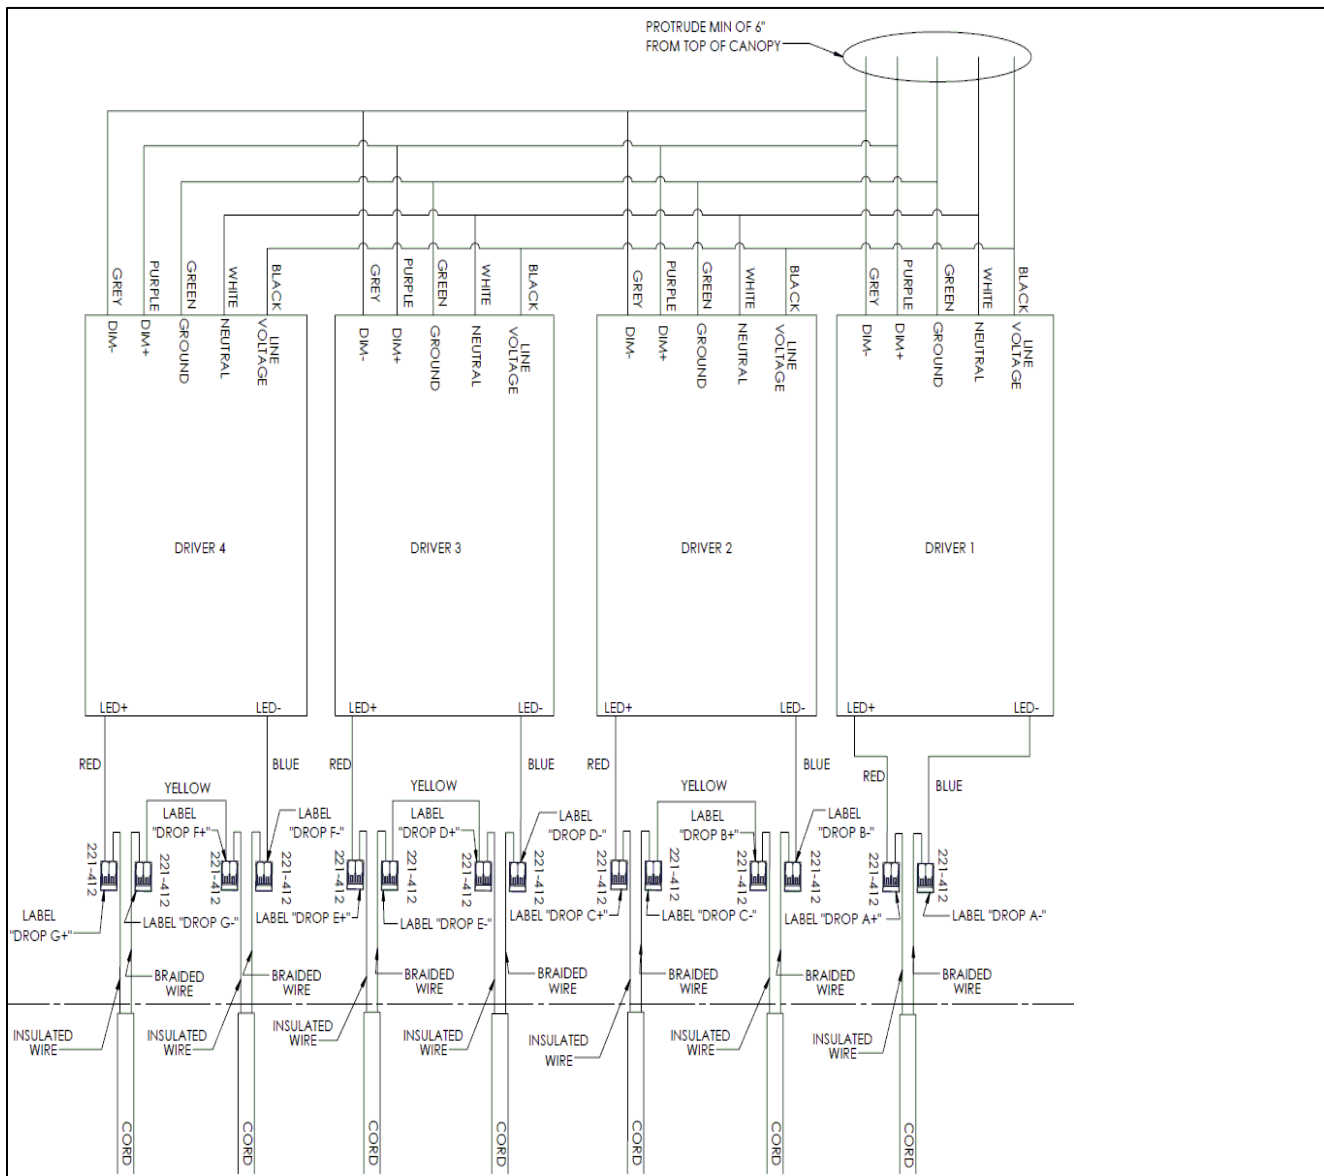

FIG. 11 – WIRE DIAGRAM
6. Connect the wires from the FIXTURE CORD to the drivers. Make all wire connections in accordance with the national electrical code and applicable local and state codes. See wire diagram shown in FIG. 11 instructions on how to shorten/install the cord on page 7.
8. Connect building supply wires to the black, white and green wires in the canopy. Make all wire connect in accordance to the national electric code and applicable local and state codes. See WIRE DIAGRAM and WIRE TABLE shown in FIG. 11 and FIG. 12.